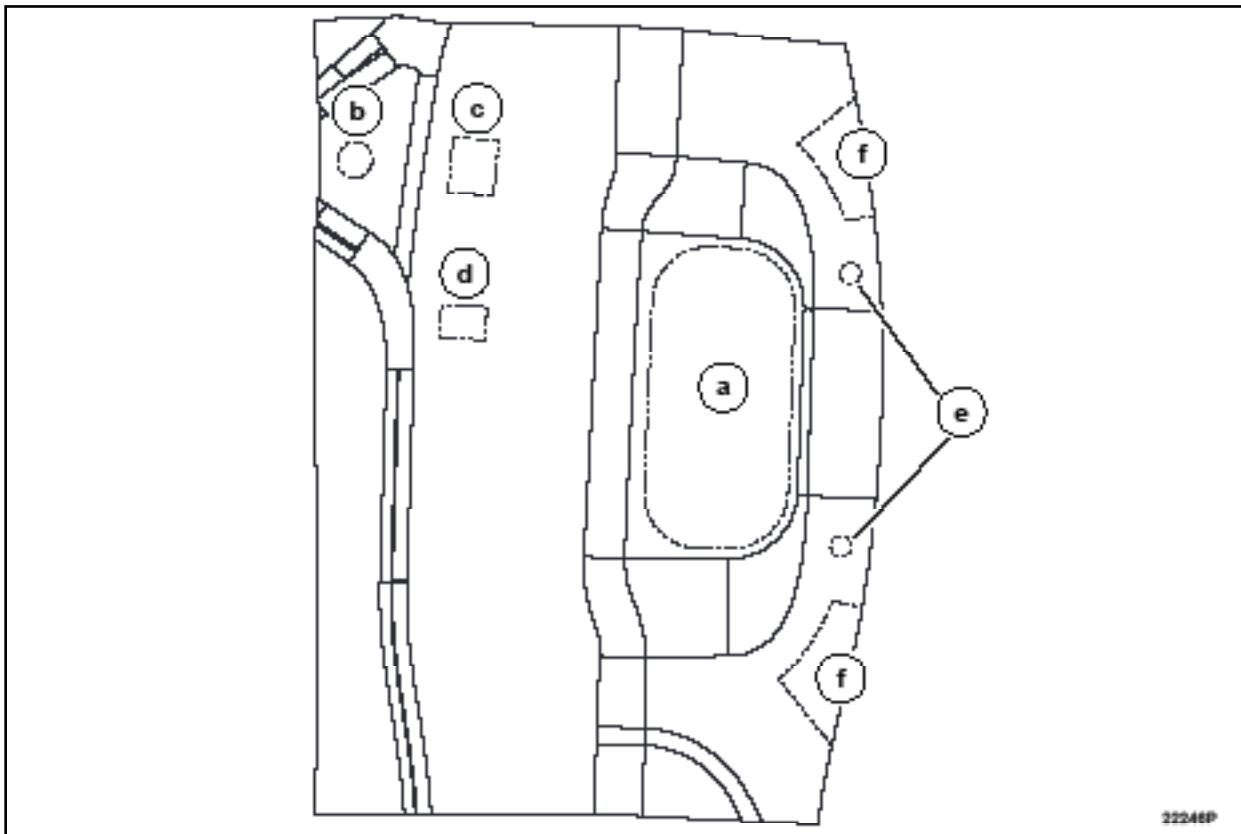

FIGURE 9
7. Refer to the separate template attachments, print and cut-out the dotted line portions on the paper template as shown in Figure 9.